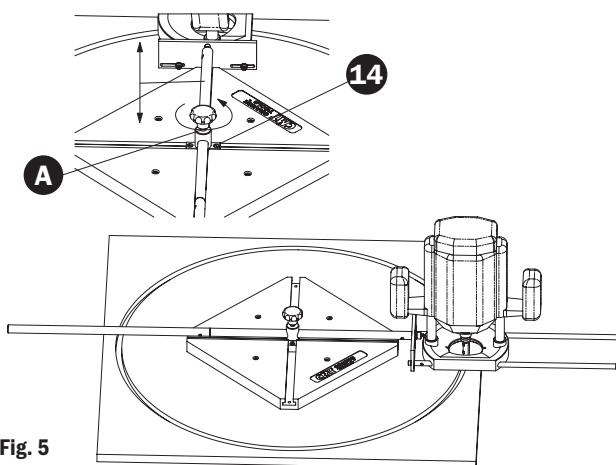

Fig. 5
**(Fig. 5)** Fit the complete slider (A) into the cross frame slot, move it towards the centre of the cross frame, (1) where the slots cross, and fix it to the structure (1) using the two countersunk screws M4x25 (14). Move the router along the extension rods (4) e (5) until the radius is set and once this has been done, tighten the bolt (7) on the slider pin (2).